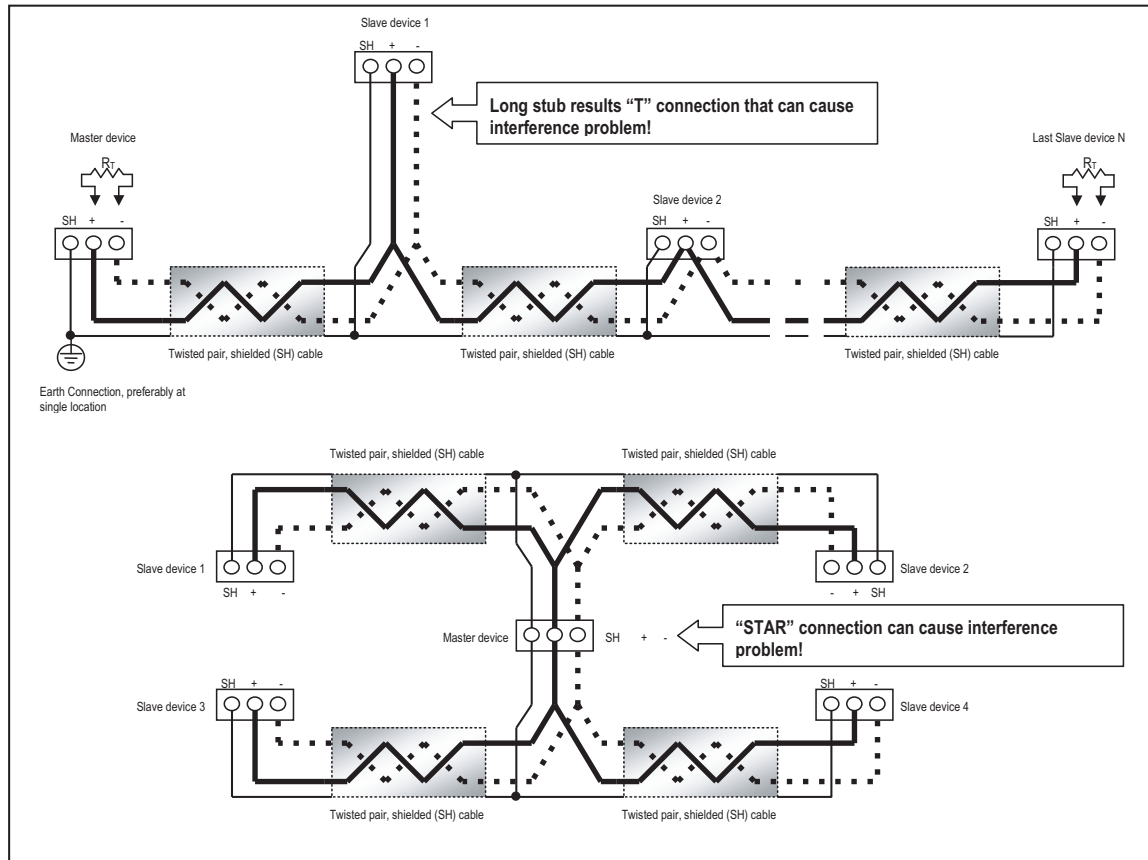

Figure 4-5: Incorrect "T" and "Star" Topologies
- Avoid both "star" and "tee" connections (see Figure 4.5). No more than two cables should be connected at any one point on an RS485 network, whether the connections are for devices, converters or terminal strips.